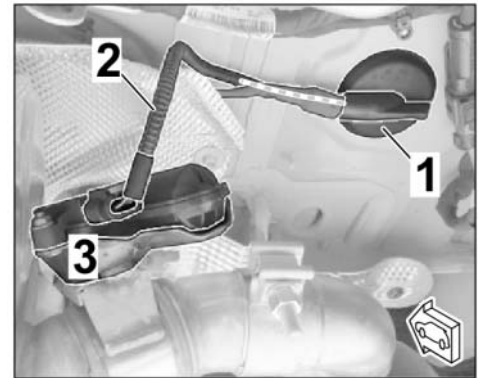

Figure 22
3.3.4 **ONLY** if a grommet with several lines is installed on the underside (including an exhaust flap branch (left / right of the standard rear silencer ⇒ *Figure 22*):